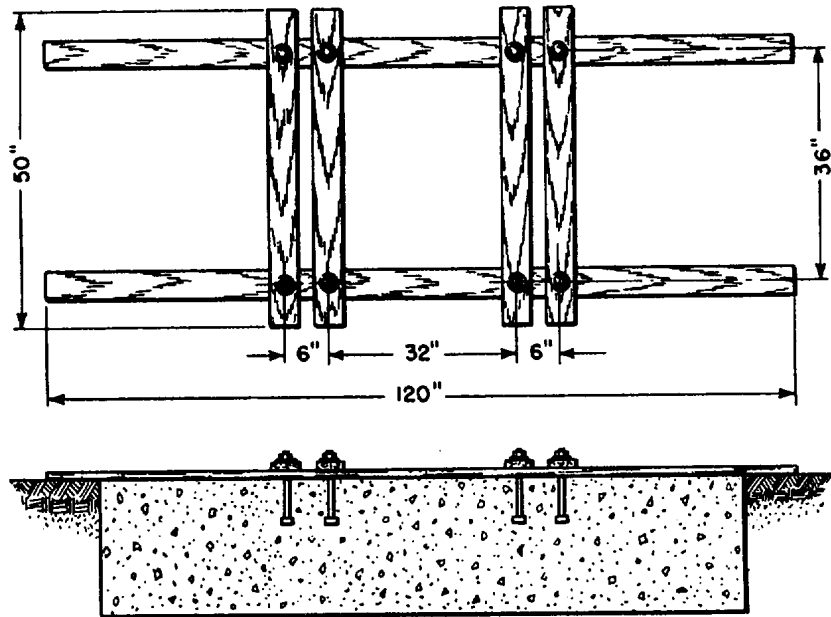

Figure 6. Mounting dimensions.
f. Foundation Plan (fig. 6). To operate the engine-compressor off the truck frame, a suitable foundation must be constructed.
Dig a hole about 100 inches long, by 45 inches wide, and 20 inches deep.. Construct the wood template shown in figure 6. Insert a one-half inch bolt about 10 inches long through each hole in the template. Put nuts on the bolts until the bolt just clears the nut. Mix about 55 cubic feet of concrete. Use one part cement to four parts of gravel and sharp sand. Thoroughly mix and add the least amount of water for easy handling. Place the template over the hole. Tamp the concrete mixture in the hole and level it off under the lower edge of the template. Straighten the foundation bolts. Allow the concrete to set until thoroughly dry, and remove the template. Place a nut on each anchor bolt and tighten them down. Put an iron washer on each bolt. Lower the engine-compressor over the bolts so it rests on the washers. Adjust the nuts to level the unit. Place a second washer and nut on the anchor bolts and pull down tight.